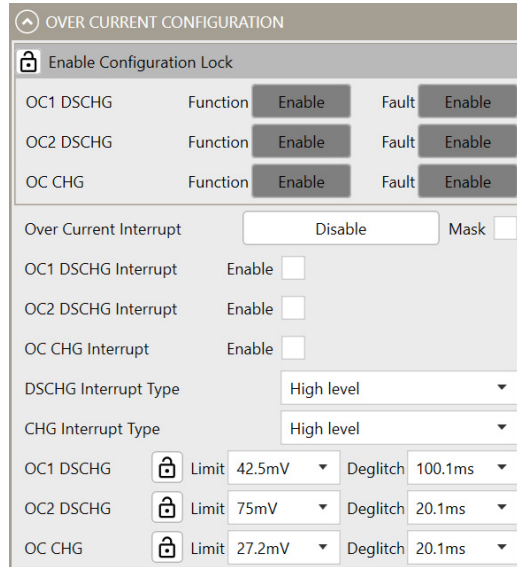

Figure 16: Over-Current Configurations
18. Figure 16 shows how to configure OC parameters.